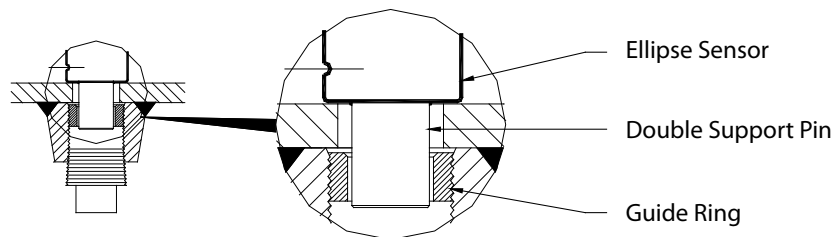

Figure 5: Double support pin
- Install the ASF Ellipse sensor through the two holes. Make sure that the double support pin passes through the guide ring. See Figure 5.